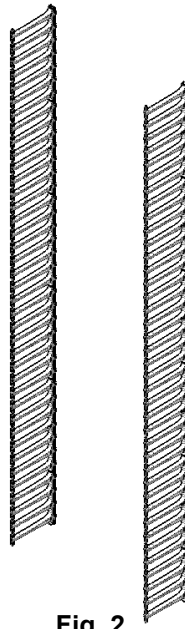
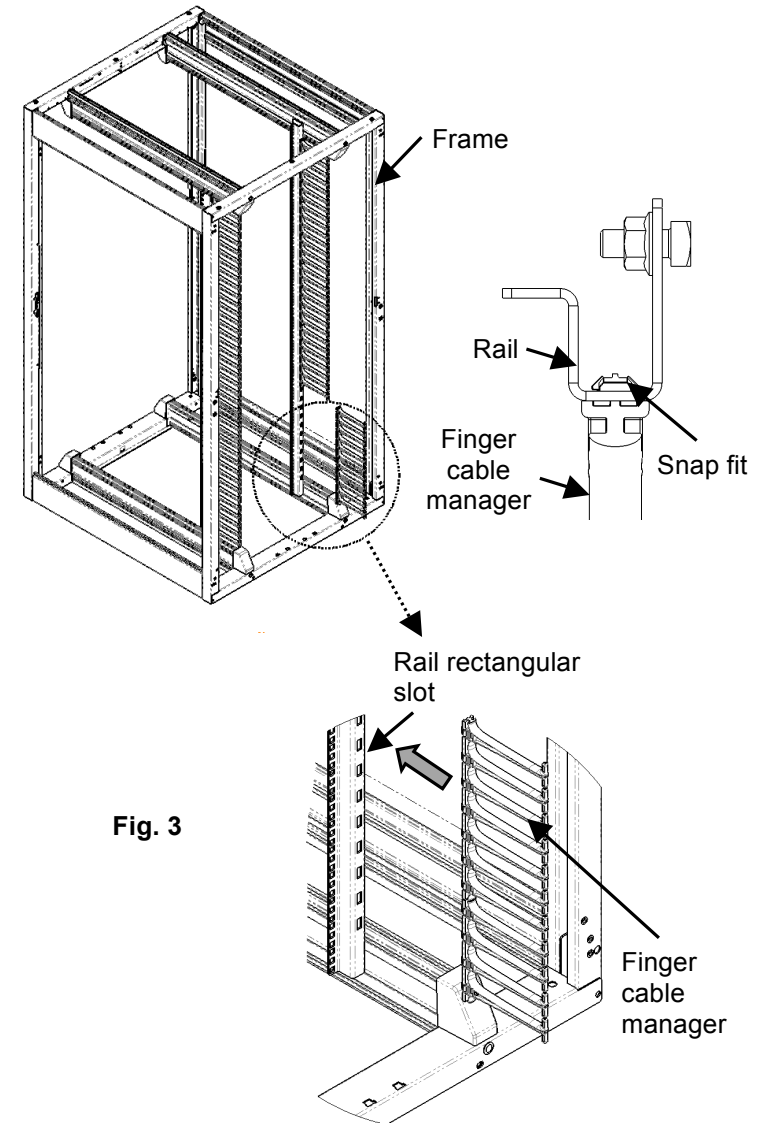

Fig. 2
Fig. 3
The Finger cable manager (Fig. 2) attaches to the Equipment mounting rail (Fig. 3).
1. Cable fingers snap into the rectangular slots on the equipment mounting rail (Fig. 3). If your cable finger kit includes a short section install it at the bottom position.